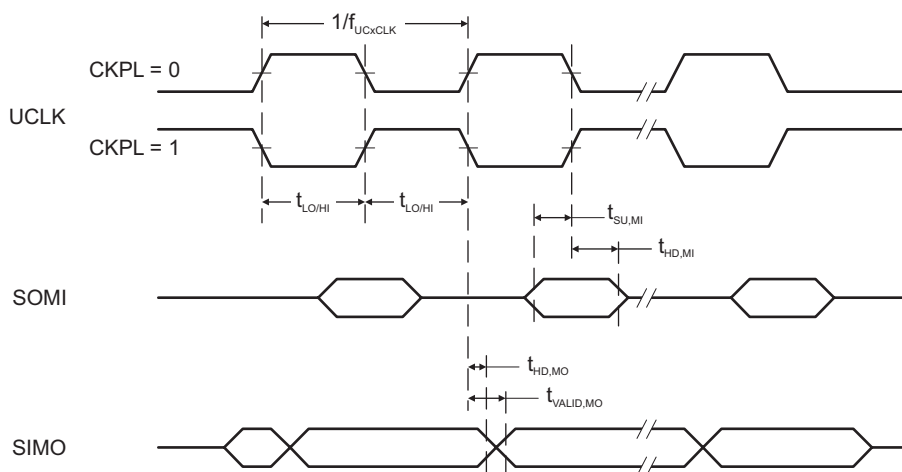
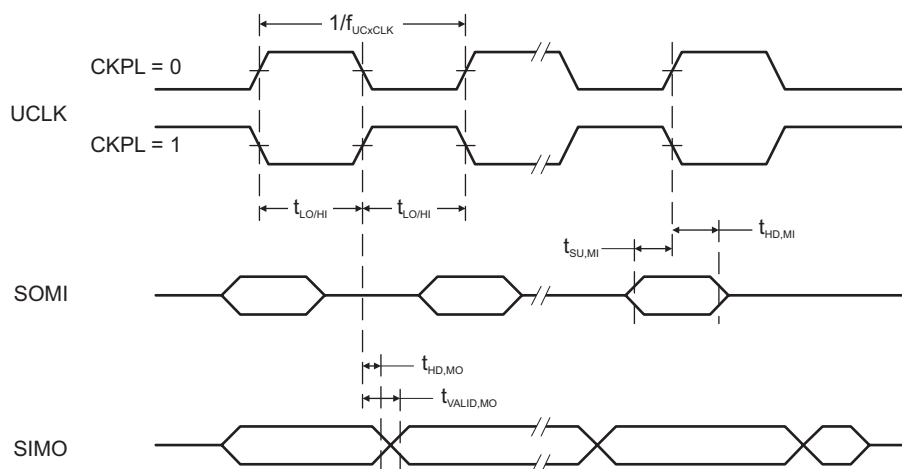

Figure 5-13. SPI Master Mode, CKPH = 0
Figure 5-14. SPI Master Mode, CKPH = 1
(see Figure 5-13 and Figure 5-14)
(2) Specifies the time to drive the next valid data to the SIMO output after the output changing UCLK clock edge. See the timing diagrams in Figure 5-13 and Figure 5-14.
(3) Specifies how long data on the SIMO output is valid after the output changing UCLK clock edge. Negative values indicate that the data on the SIMO output can become invalid before the output changing clock edge observed on UCLK. See the timing diagrams in Figure 5-13 and Figure 5-14.